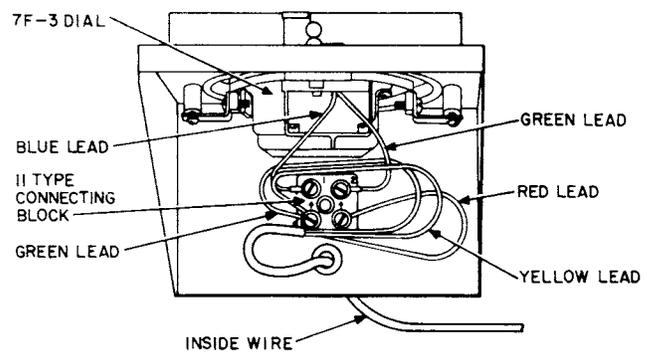

Fig. 1—Terminating Inside Wire
- Revise Fig. 1
2.01 Fig. 1 shows the method of terminating inside wire on the 7F-3 dial.